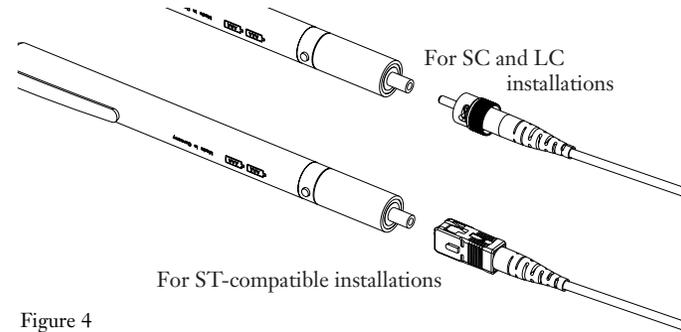

Figure 4
- a) Insert the **ST-compatible** connector on the end of the SC-ST-compatible jumper into the VFL 350 (Figure 4, top).
- a) Insert the **ST** connector on the end of the ST-LC jumper into the VFL 350 (Figure 4, lower).
- a) Insert the **SC** connector on the end of the SC-ST-compatible jumper into the VFL-350 (Figure 4, lower).